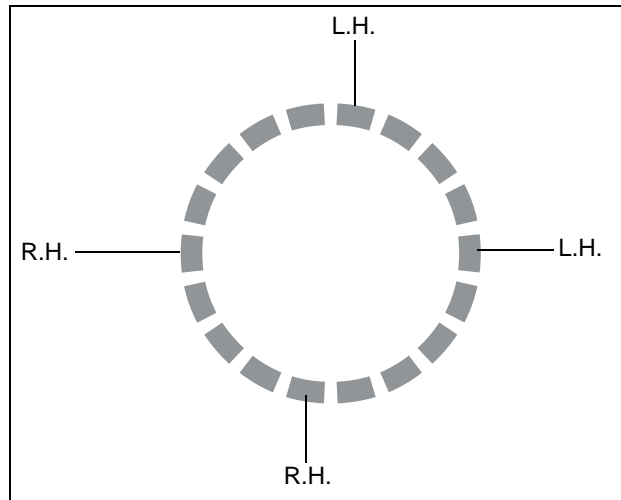

Figure 5Z
2. Snug bolt two (2) more plenum roof rafters to plenum roof center collar. Orient to bolt holes in plenum roof center collar as shown in Figure 5Z.